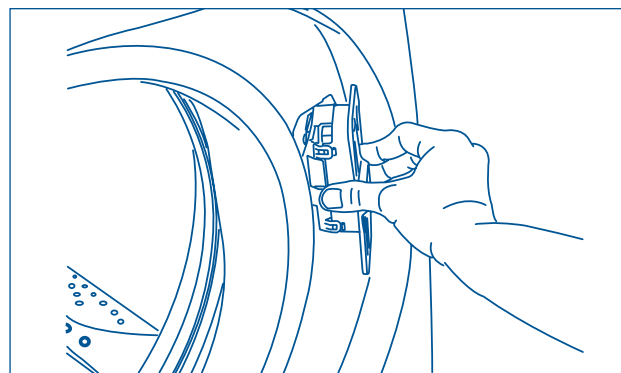

Figure 2-16.
2. Slide the lock toward the outer edge of the front panel. Pivot the lock slightly outward while slowly pulling it through opening to expose the attached harness. (See Figure 2-16)